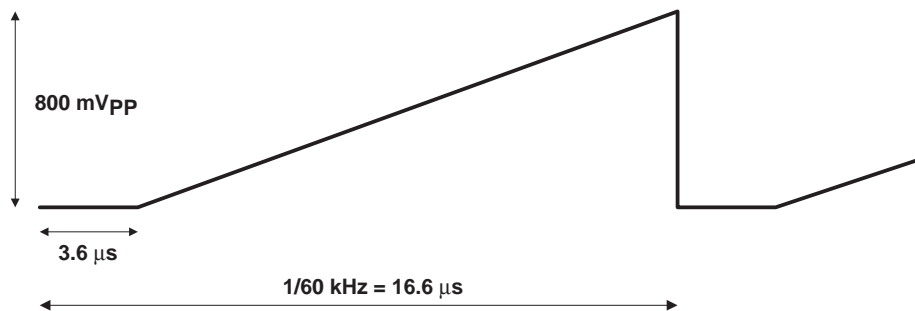

Figure 6–1. Input Test Waveform
- SYSTEM\_INTREF, with an input signal other than the ramp-shape input test waveform of Figure 6–1.